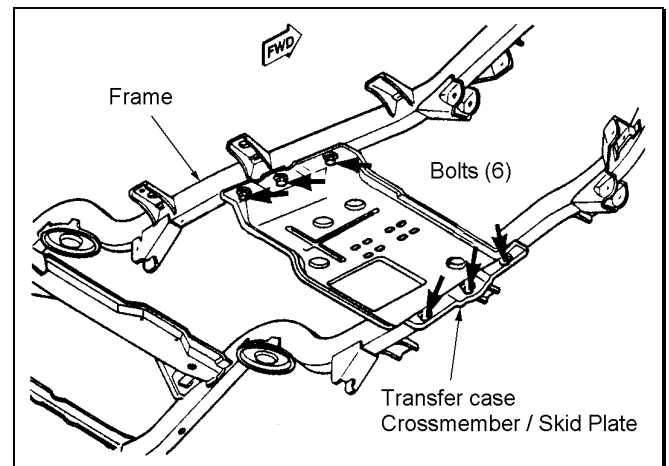

Figure 17
- 1) ☑ Place the transmission in neutral. Support the transfer case crossmember/skid plate with a hydraulic jack. Loosen the 6 bolts holding the crossmember to the frame. See figure 17.